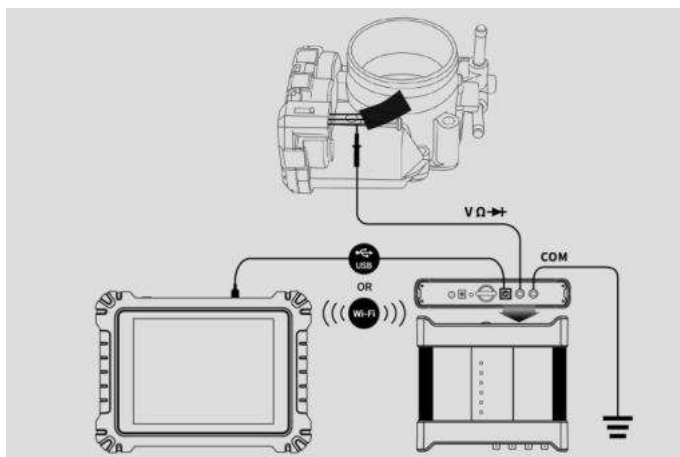

Figure 7-1 Sample Connection Diagram
1. Insert the applicable test leads or probe terminal ends into the multimeter jacks to complete the connection (refer to **Figure 7-1**).